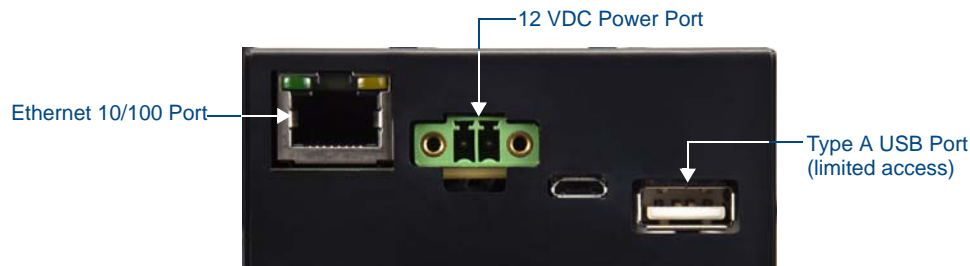

FIG. 32 MXD-2000XL-PAN / MXD-1900L-PAN - rear connectors
7. Insert each connector into its corresponding location along the back of the device (FIG. 32).